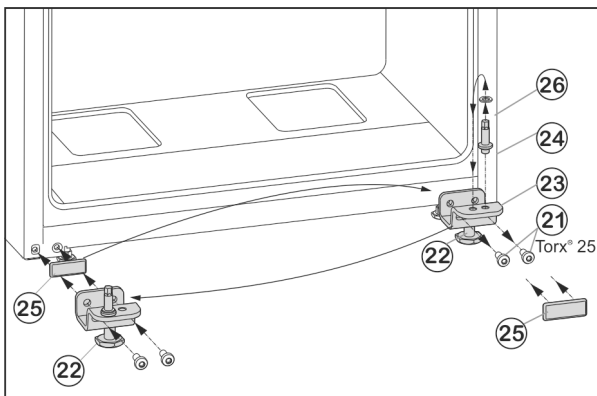

Fig. 7
- ▶ Unscrew fastening screws Fig. 7 (21).
- ▶ Remove the lower bearing block Fig. 7 (23), complete with bearing bolt Fig. 7 (24), washer Fig. 7 (26) and adjustable foot Fig. 7 (22).
- ▶ Unscrew the bearing bolt Fig. 7 (24), complete with washer Fig. 7 (26), re-locate it into the mounting hole on the opposite side of the bearing block and tighten again.
- ▶ Carefully remove the cover plate Fig. 7 (25) and re-locate it to the other side.
- ▶ Fasten the lower bearing block Fig. 7 (23), complete with bearing bolt Fig. 7 (24), washer Fig. 7 (26) and adjustable foot Fig. 7 (22) to the new hinge side, with the help of a cordless screwdriver if necessary, and **tighten (with 4 Nm)** once again.
- ▶ Lower the bottom door onto the bearing bolt Fig. 7 (24).
- ▶ Insert the centre bearing block (13) turned through 180° into the lower door and fasten firmly (**with 4 Nm**) to the new hinge side with the fastening screws (11) (2 x Torx® 25).
- ▶ Refit plastic washer (10).
- ▶ Unscrew the adjustable foot Fig. 7 (22) on the lower bearing block Fig. 7 (23) until it reaches the floor.